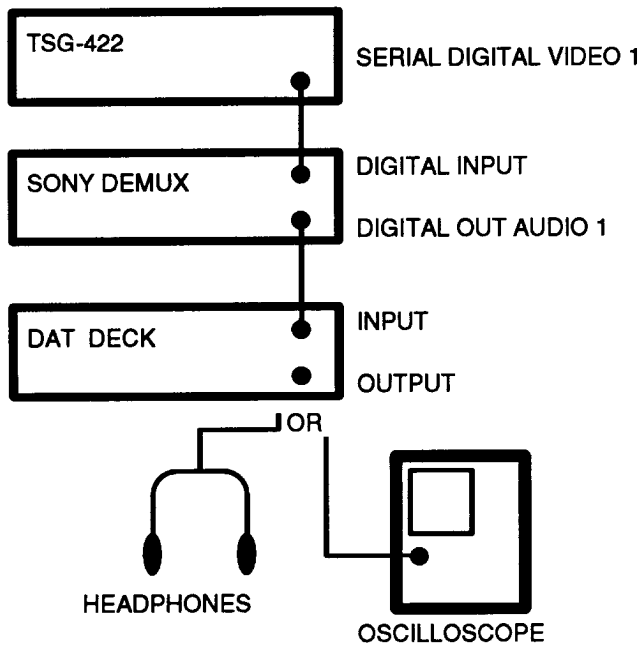

Fig. A-9. How to connect the test equipment to check the content of the embedded audio.
- a. Connect the equipment as shown in Fig. A-9.